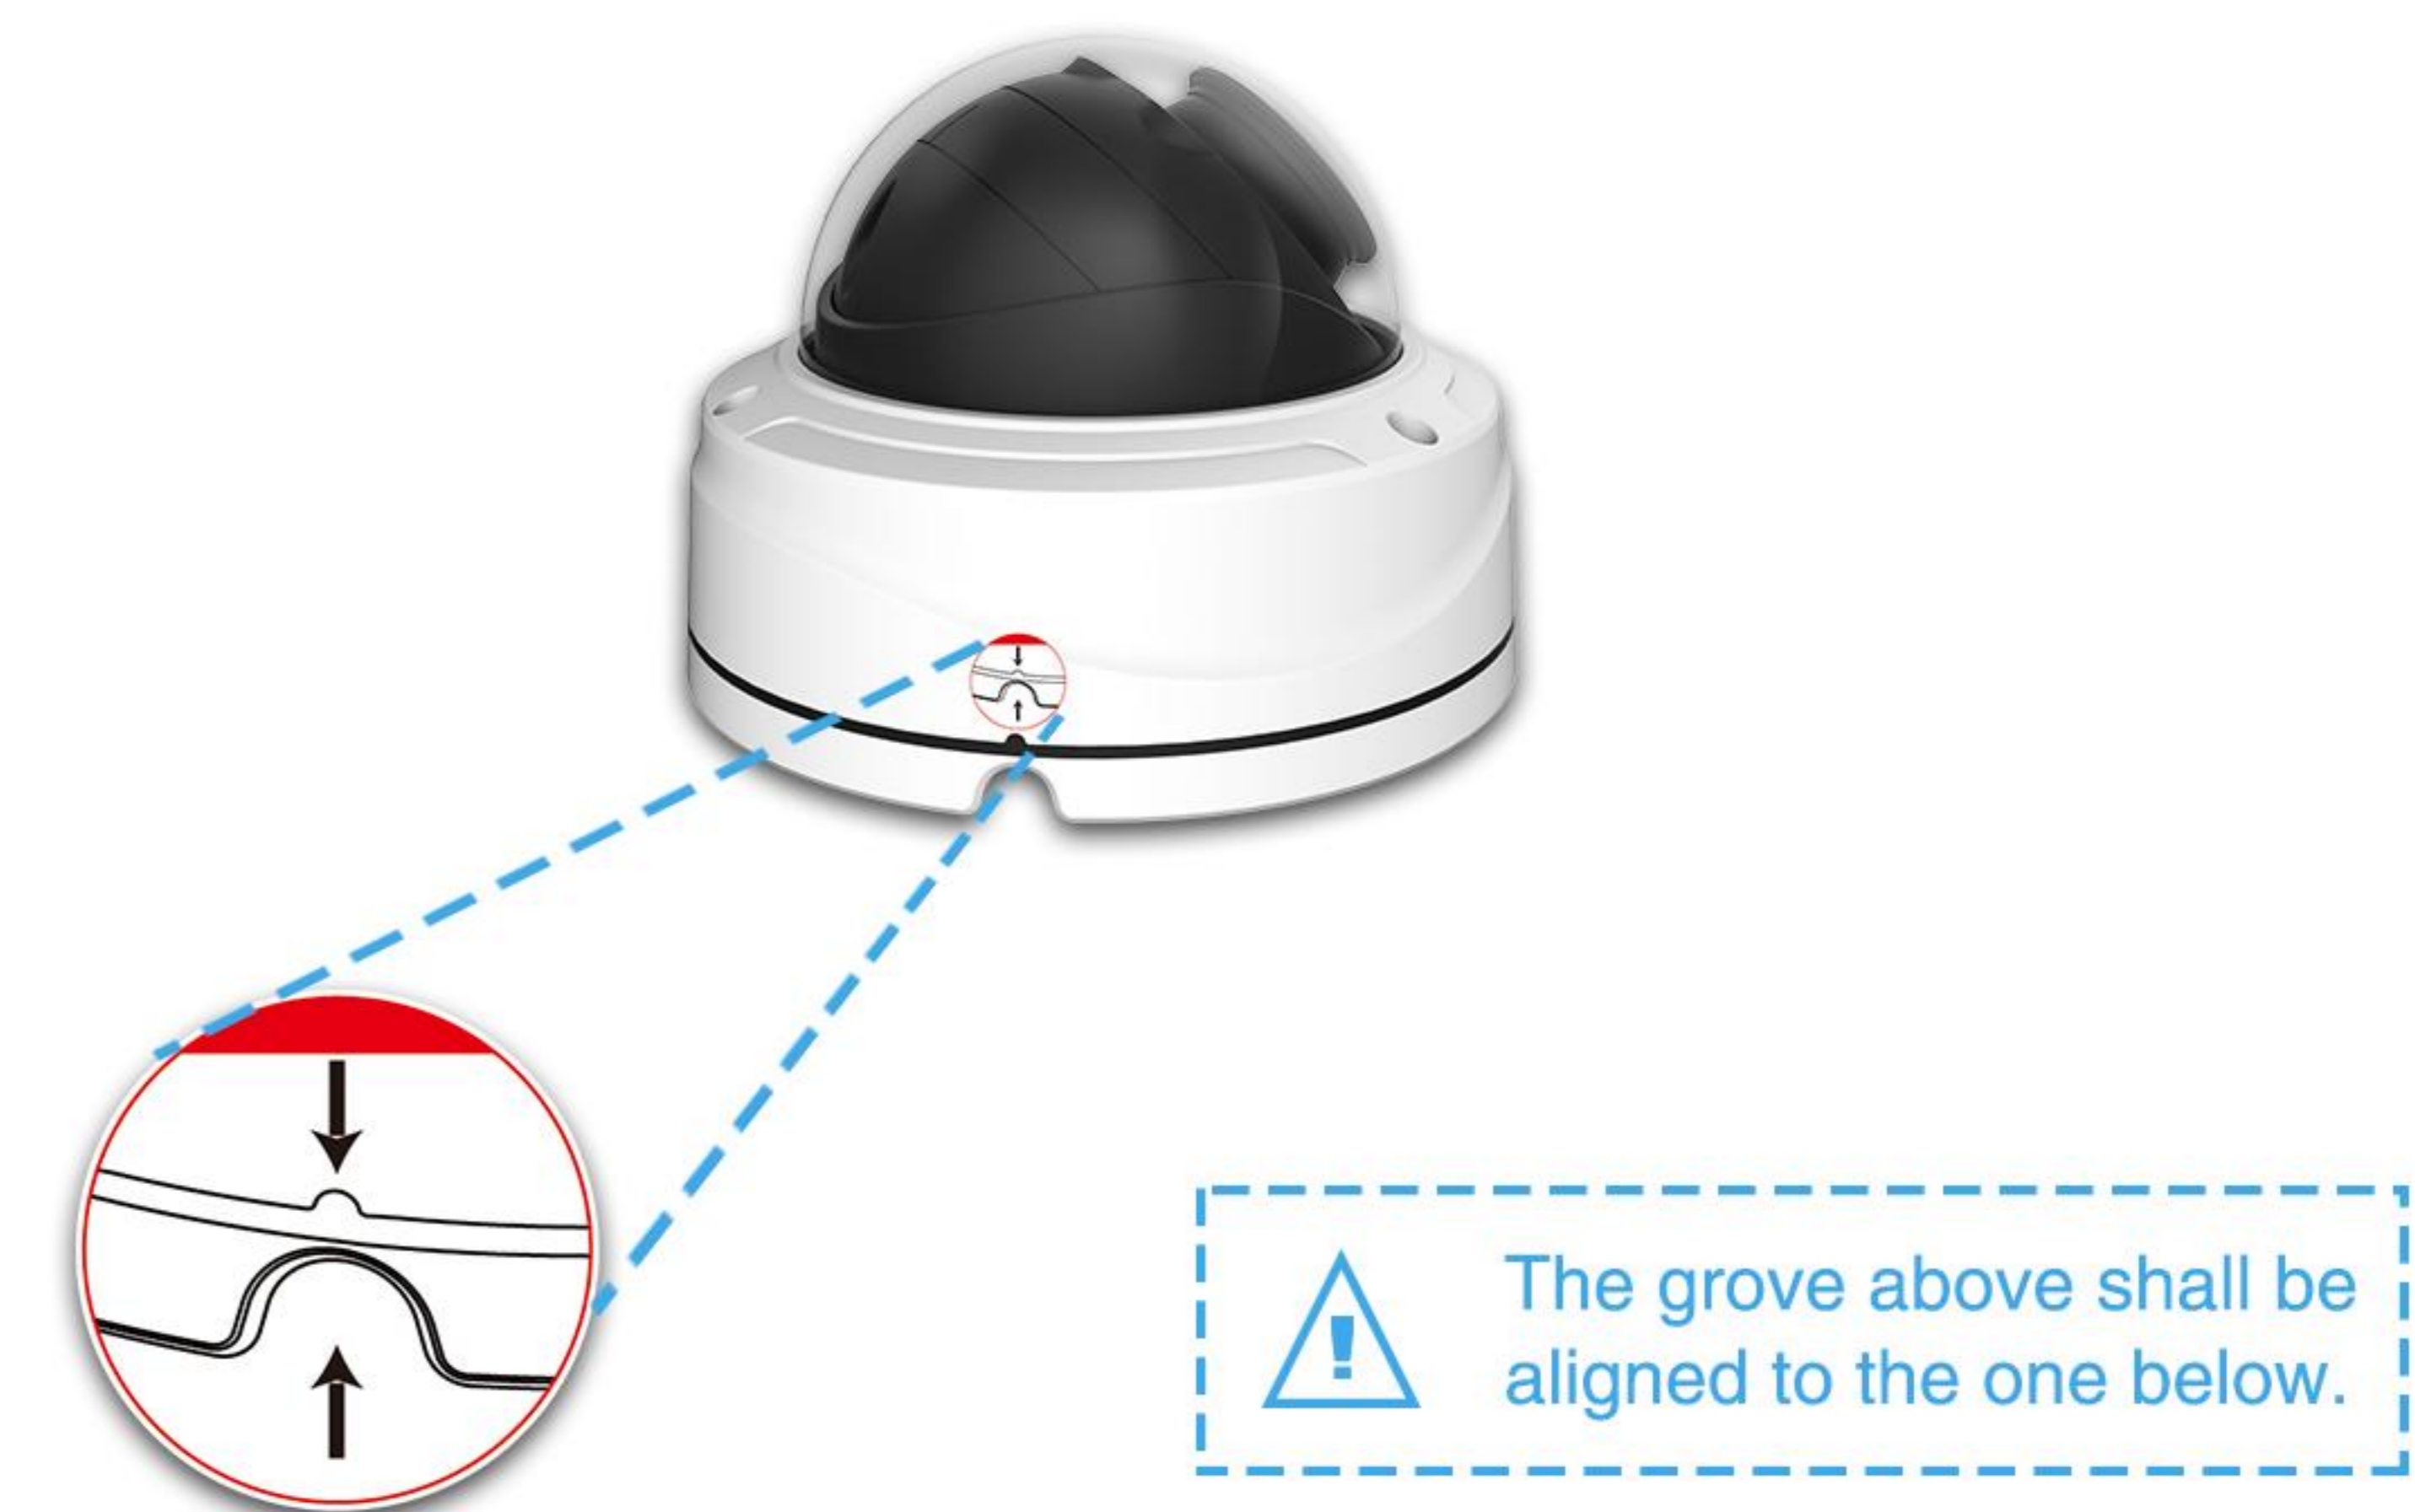

Figure 10
**Step 7:** Attach the Dome Cover (Making sure that the small groove above is aligned to the groove on the base), then secure the screws (Figure 10);